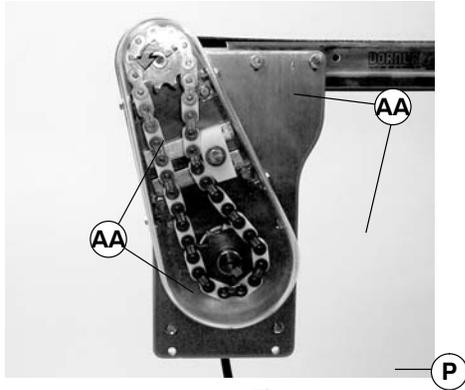

Figure 23
1. Loosen four screws (AA of Figure 23) and remove cover (P).
NOTE: Do not over-tighten screws (AA of Figure 23).
8. Install cover (P of Figure 23) and tighten four screws (AA) to 35 in-lb (4 Nm).